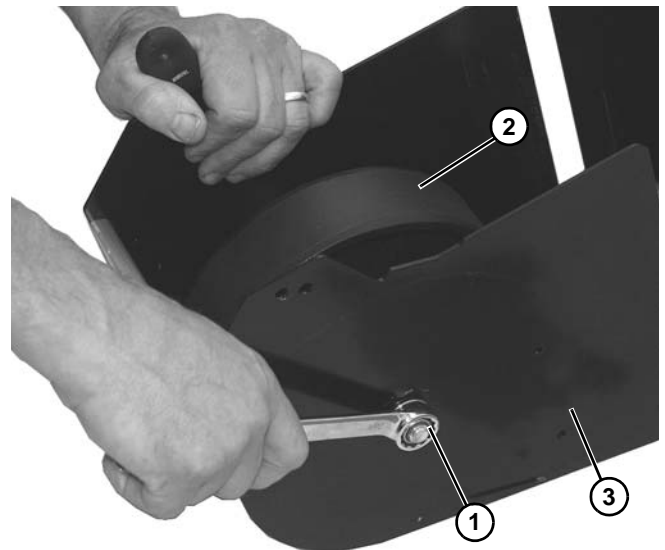

Figure 133
3. Use two wrenches to remove nut (Figure 133, item 1) on bolt securing wheel (Figure 133, item 2) onto weighted take up assembly housing (Figure 133, item 3).